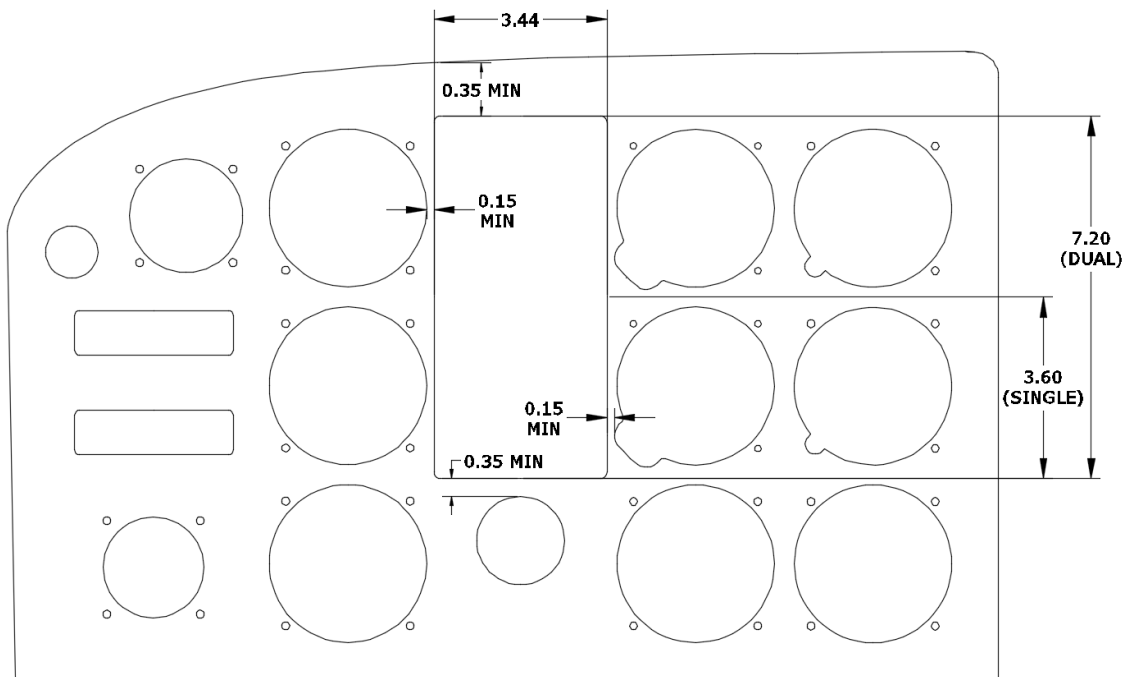

Figure 4-22, Instrument Panel Limitations
- 3) The hole must meet the limitations and minimums as shown in Figure 4-22.